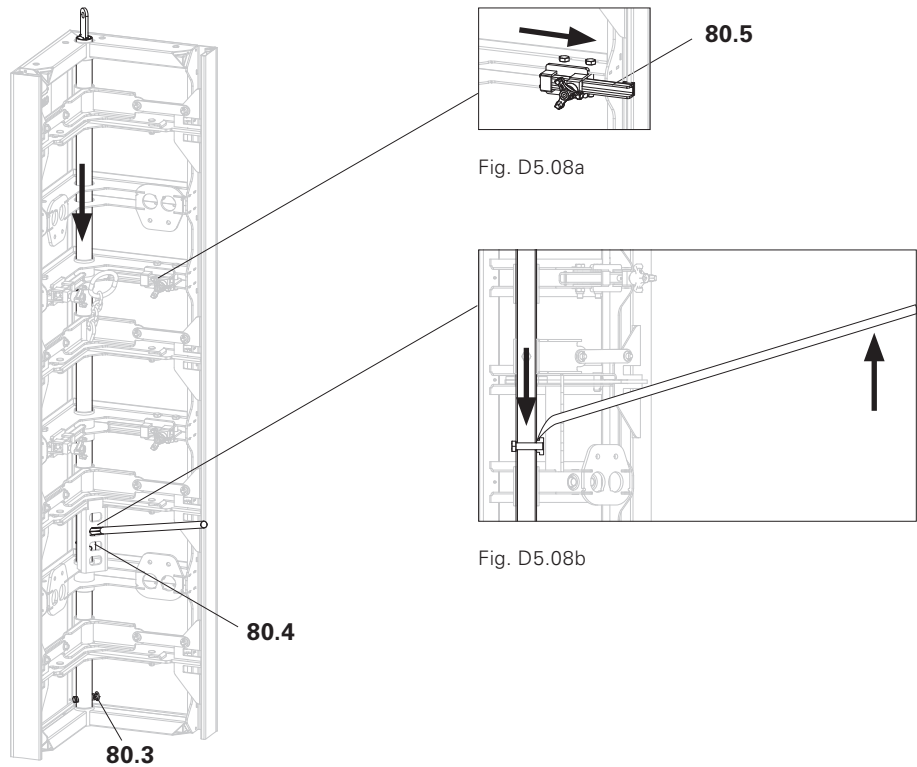

Fig. D5.08
2. Secure tube by means of pins 20 x 102 and cotter pins 5/1 (80.3). (Fig. D5.08 + D5.08b)
3. Push the slider of the Positioning Waler (80.5) over the profile until there is a flush fit and tighten the wingnuts. (Fig. D5.08 + D5.08a)